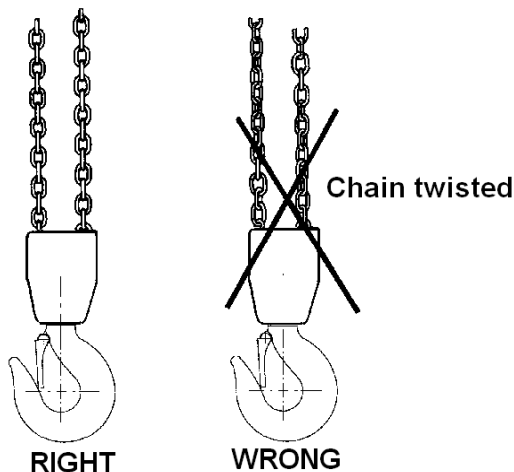

Fig 3 The chain must not be twisted
- The load chain must not be kinked or twisted. With multi-fall chain hoists there is a risk of the chain twisting if the bottom hook assembly ends up looped through the chain sling – usually during refitting or moving the chain hoist between work stations. See Fig 3.